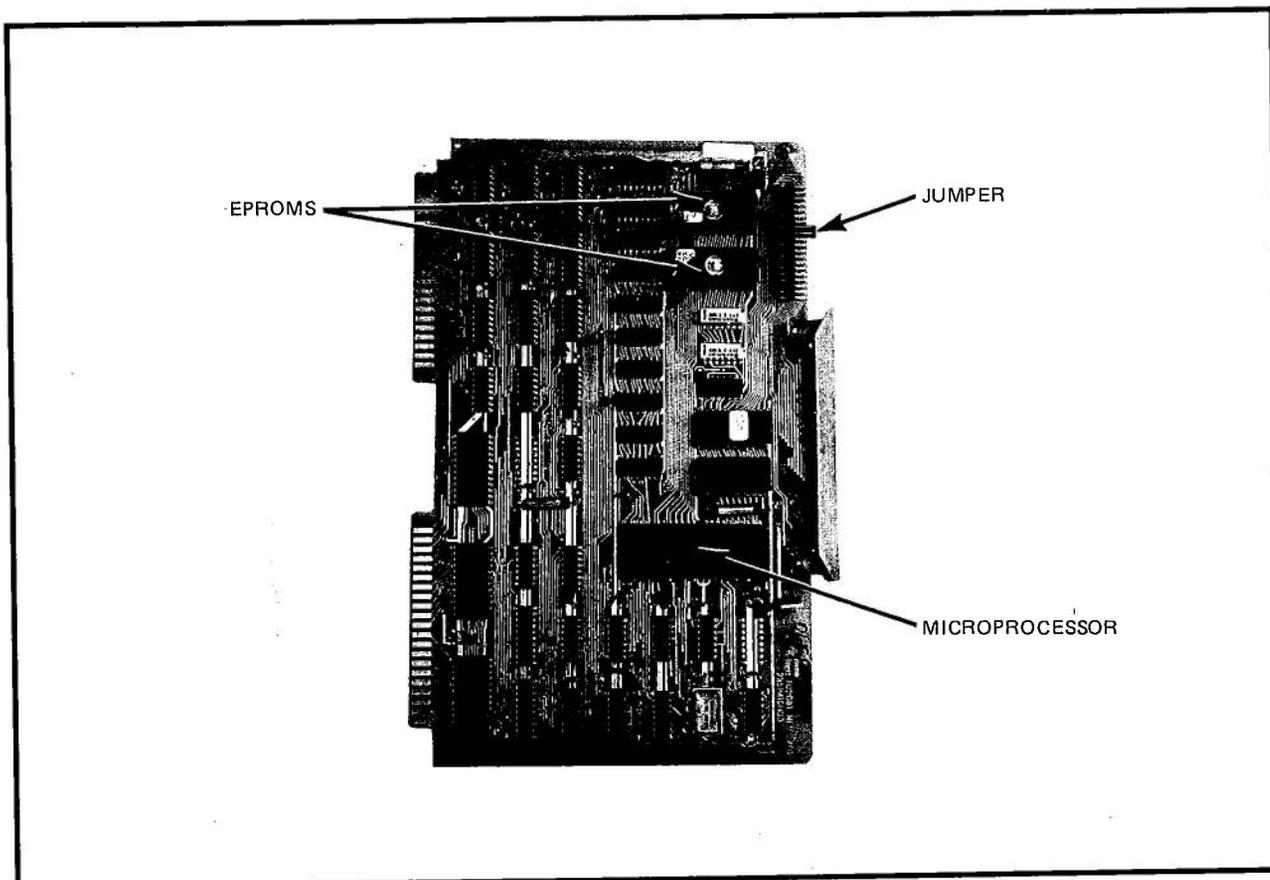

Figure 9-17. PC-700 CPU Module Jumper Location
- 7. PC-700 only** — Check to see that the jumper is installed on the CPU module's connector, between Pins 8 and 9 from the right or top of the inner row. The jumper connects the PROMs with the microprocessor; therefore, the processor will not operate if the jumper is missing. See Figure 9-17.
- 9. PC-700 only** — Check to see that the microprocessor IC and EPROMs are securely seated and positioned properly into their sockets on the CPU module. See Figure 9-17.